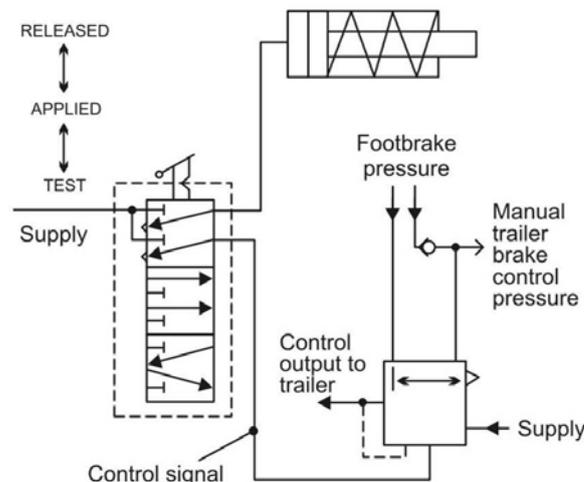

Figure 50 Trailer Brake Control
**101. Trailer Brakes.** Compressed air is connected to the trailer supply line and the trailer brake valve. The trailer brakes have four operating conditions as follows (Figure 50):